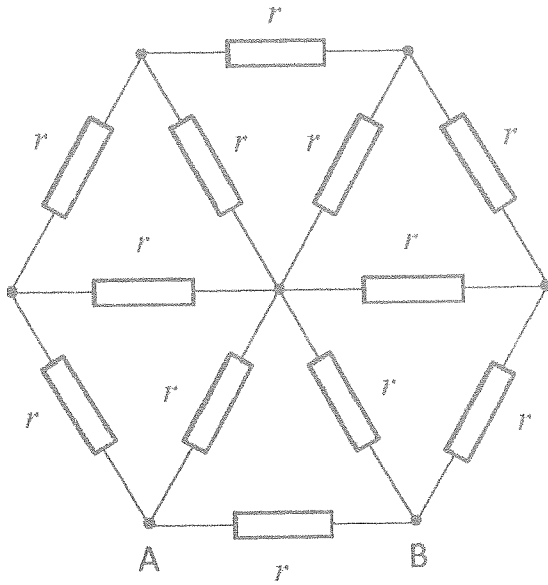

Figure Q1.3
- d) Calculate the resultant resistance across the terminals AB of the circuit in Figure Q1.3. All the resistors of the circuit have equal resistances of r .